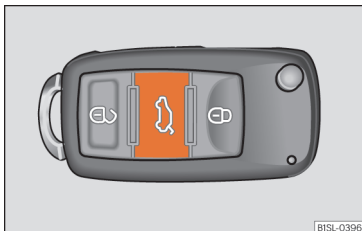

Fig. 107 On the vehicle key: button to unlock and open the boot hatch.
- Press the  button on the vehicle key »» **Fig. 107** for about one second to unlock the rear lid.